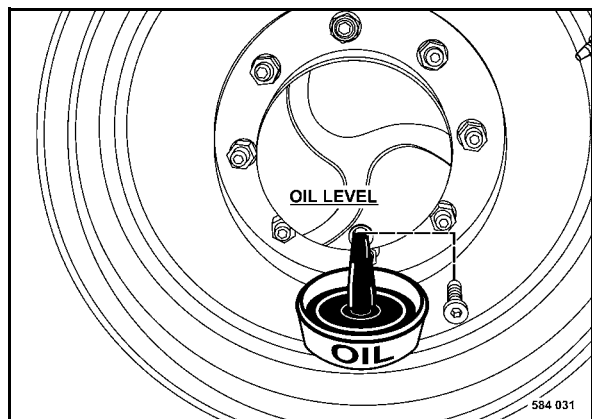

Fig. 88
- Move the drive wheel, until the plug (Fig. 88) is in bottom position.